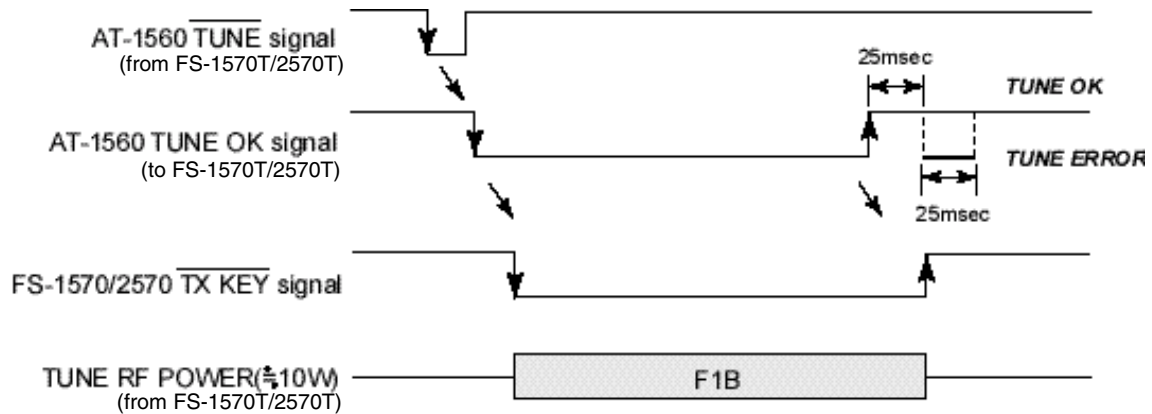

Fig.5.8.2 Timing of control signals
Tuning is made by receiving “TUNE” signal. Fig.5.8.2 is the timing chart for generating TUNE OK signal. When tuning is made successfully, TUNE OK (H) signal is generated. If not, TUNE ERROR (L) signal is generated. Pressing TUNE switch, S3 also tunes the antenna matching circuit.